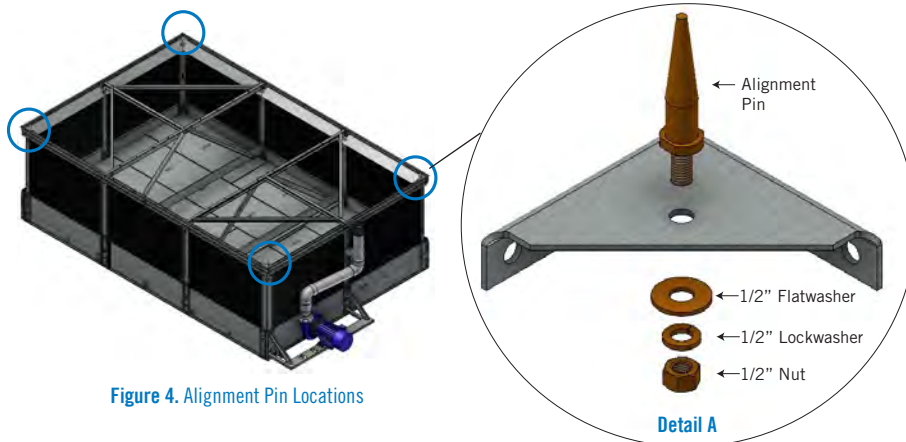

Figure 4. Alignment Pin Locations
3. For units that ship with rigging alignment pins, install the pins on the cold water basin in the locations shown in **Figure 4**. Secure the alignment pins using the 1/2" hardware provided from the factory.
3. Install rigging alignment pins on the cold water basin in the locations shown in **Figure 4** on **page 5**. Secure the alignment pins using the 1/2" hardware provided.
4. Install rigging alignment pins on the cold water basin in the locations shown in **Figure 4** on **page 5**. Secure the alignment pins using the 1/2" hardware provided.